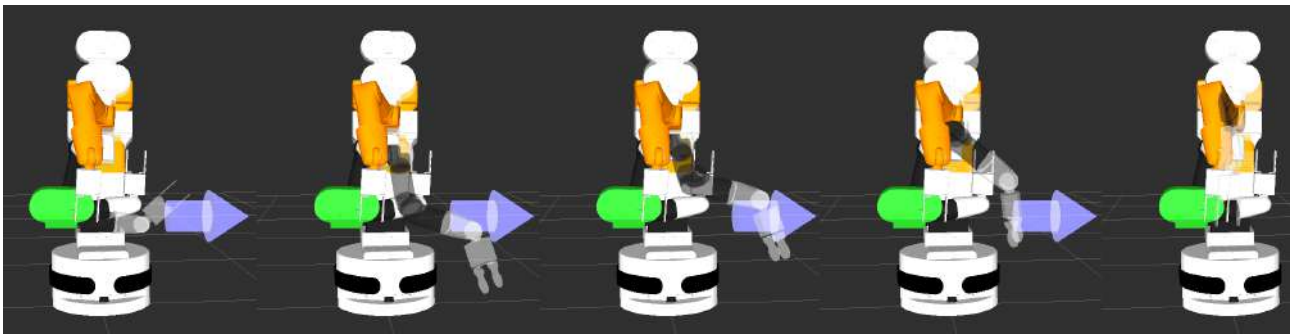

Figure 128: Example of plan found with the object in the scene.
4. (Optional) To execute such a motion, go the “*Context*” tab and click “*Publish current scene*”. This is necessary for the planning environment in the GUI to be moved to the one used by *MoveIt!* for planning. Go to the “*Planning*” tab again, and now move the arm to a position. Since this setup can be a very complex one for the planner, it might fail at the first attempt. Keep re-planning until it is succesful. A succesful plan for the current example is shown in figure 128.